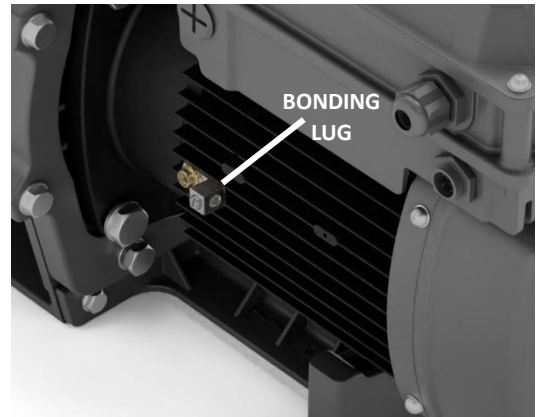

Figure 8
12. **Bonding:** Use the Bonding Lug located on the side of the motor (Figure 8). Use a solid copper bonding conductor not smaller than 8 AWG (NOTE: For Canada, a 6 AWG or larger solid copper bonding conductor is required). Bond the motor to all metal parts of the pool structure and to all electrical equipment, metal conduit and metal piping within 5 feet (1.5 M) of the inside walls of the swimming pool, spa or hot tub in accordance with the current National Electrical Code.